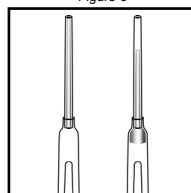

Figure 4
6. **Required for R-2810D only:** Pull the VACUette into a vertical position. A small portion of the collected sample should fall into the sleeve of the VACUette tip (fig. 4).